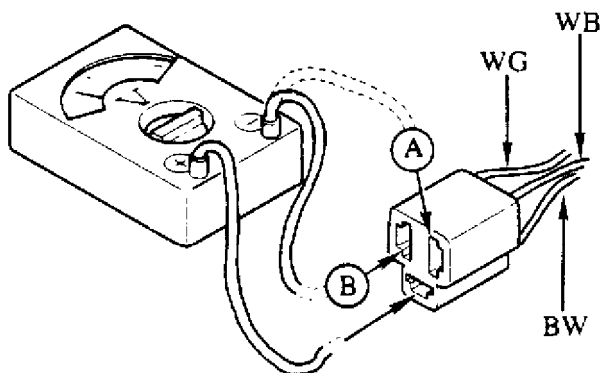

Fig. 2: Checking Throttle Sensor Voltage
3. Connect the voltmeter to the throttle sensor checking connector (Green) and check the voltage as shown. (Fig. 2)